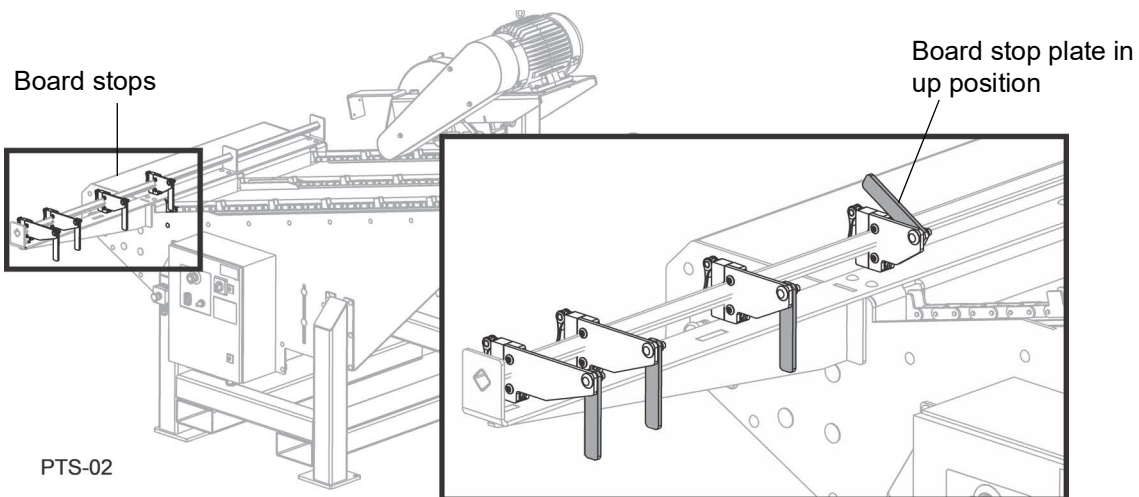

FIG. 3-6
- b. Flip the board stop plate up when a longer cut length is needed. See Fig. 3-6.